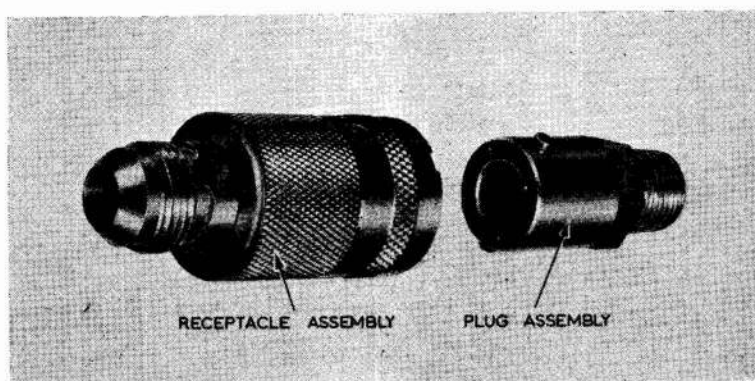

Fig. 1. Quick-disconnect coupling (Part No. 256000)
1. The quick-disconnect coupling, non self sealing (fig. 1) is fitted in certain aircraft liquid oxygen installations to provide a connection that affords positive engagement and permits rapid connection and disconnection.